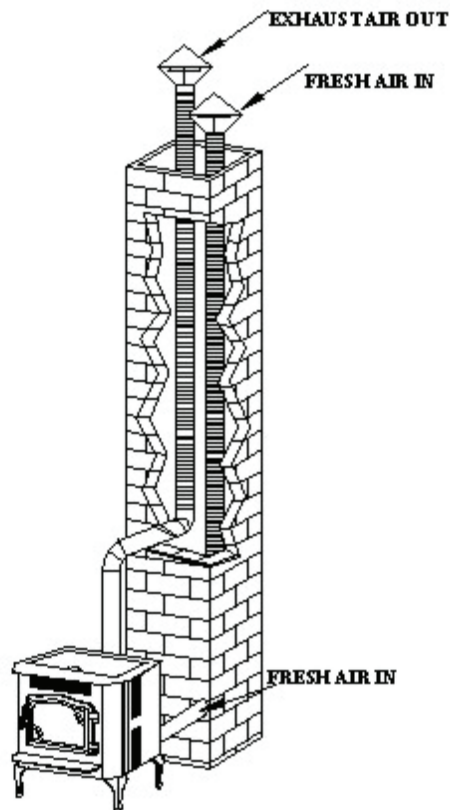

FIGURE 8: CHIMNEY FLUE AND FRESH AIR VENTING
3. Flue pipe joints need to be joined tightly to ensure air tight venting with at least (3) sheet metal screws and sealed with RTV silicone or approved aluminum flue pipe tape.
4. FIGURE 8 shows a sample of a Country Flame recommended method of flue pipe installation. The vent pipe is extended just above the top of the existing chimney (consult local ordinances for code requirements.) The flue pipe must be fitted with a proper pellet flue cap. A storm collar and flashing should be installed to seal off the chimney opening.